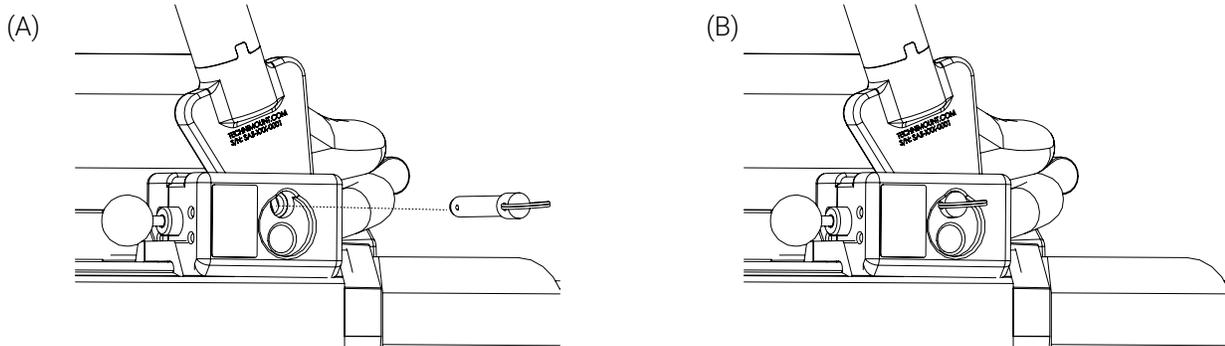

Figure 12: Lock pin installed
4. Reinsert the lock pin. Push the lock pin in until the finger ring is flat against the surface of the clamp block (Figure 12).